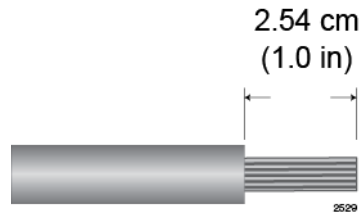

Figure 132. Stripping Solid or Stranded DC Power Wires
1. Prepare adequate lengths of two solid or stranded 8 AWG DC power wires by stripping them as shown in Figure 132.